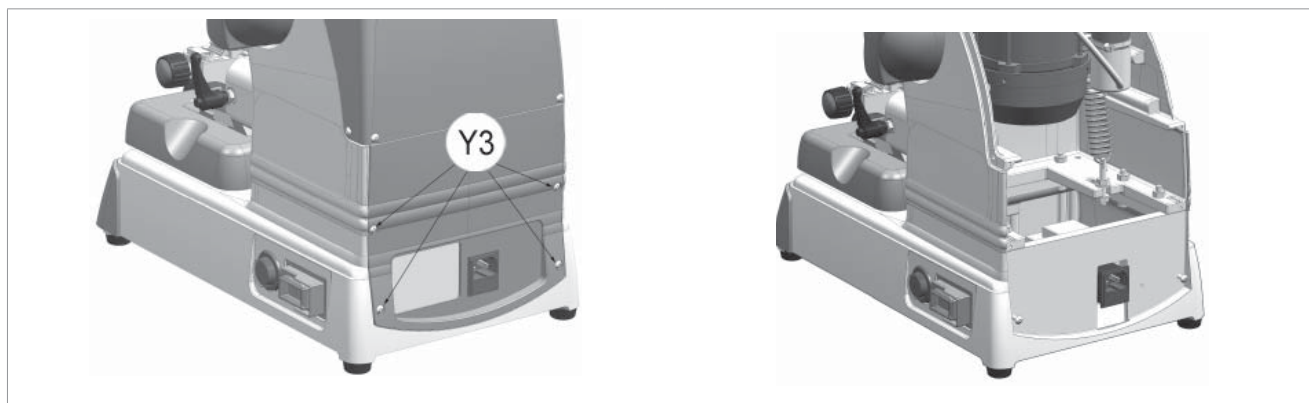

Fig. 60
- 3) Loosen the 4 screws (Y3) and remove the rear panel (Fig. 60).